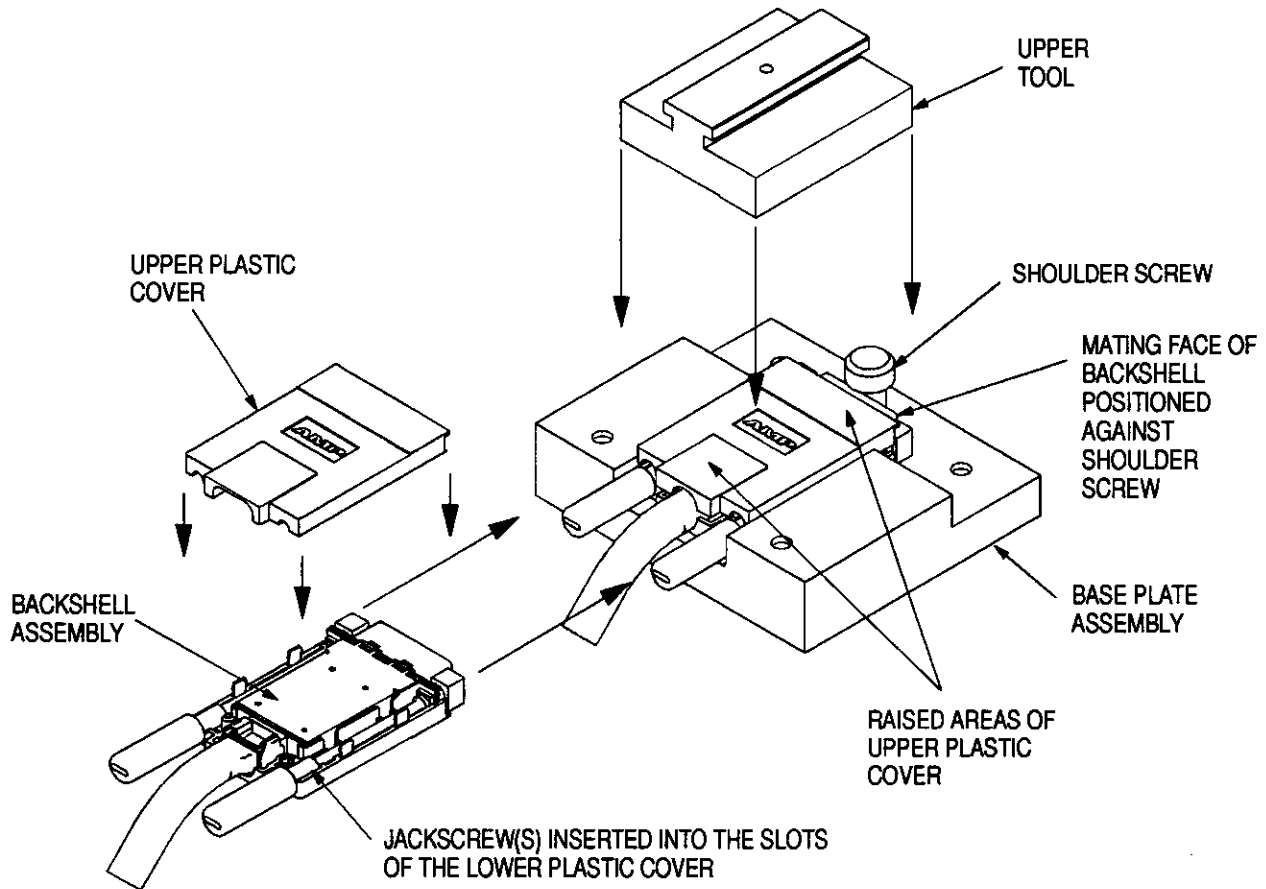

Figure 7
4. To check the alignment of the upper and lower tool, position the backshell assembly with upper plastic cover into the tooling assembly, as shown in Figure 7.
5. Pull down on the tool handle, making sure that the recessed areas of the upper tool meet the raised areas of the upper plastic cover. Refer to Figure 7.
1. Insert the jackscrews into the slots of the lower plastic cover; then position the upper plastic cover onto the backshell assembly. See Figure 7.
2. Position backshell assembly with upper plastic cover into the base plate assembly, as shown in Figure 7. The mating face of the backshell assembly must be positioned against, and under the head of, the shoulder screw. See Figure 7.